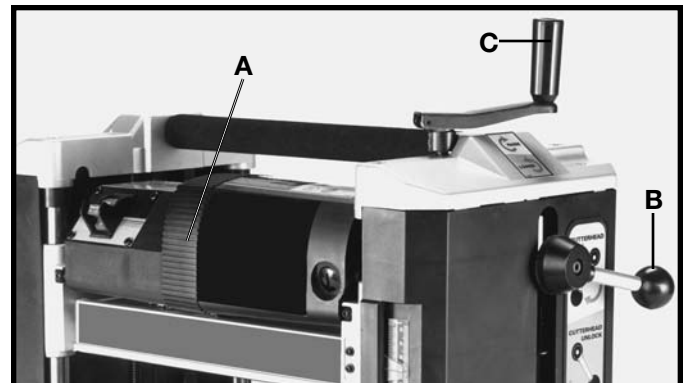

Fig. 16
The head assembly (A) Fig. 16, contains the cutterhead, feed rollers, chip deflector and motor. Raising and lowering the head assembly controls the depth of cut. To raise or lower the head assembly, rotate the cutterhead lock handle (B) counterclockwise to unlock the cutterhead and turn the cutterhead raising and lowering handle (C) clockwise to raise or counterclockwise to lower the cutterhead. One revolution of handle will move the cutterhead up or down $\frac{3}{32}$ ". **ALWAYS LOCK THE CUTTERHEAD IN PLACE, BY ROTATING HANDLE (B) CLOCKWISE BEFORE PLANING.**